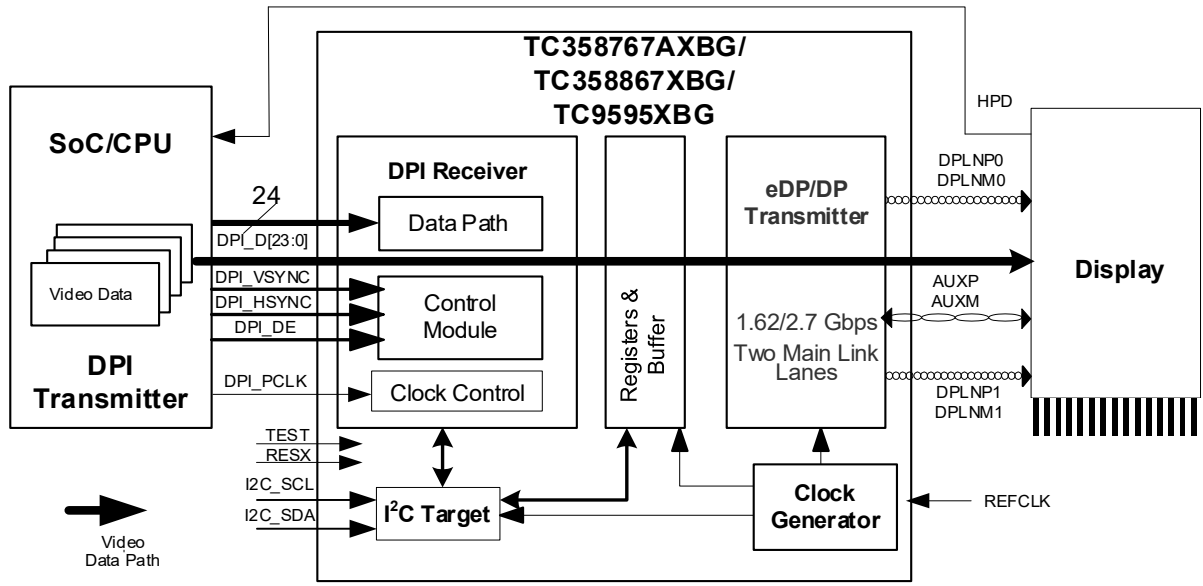

Figure 1.2 System Overview with TC358767AXBG/TC358867XBG/TC9595XBG in MODE_P21 Configuration
- Mode_P21: A system configuration where TC358767AXBG/TC358867XBG/TC9595XBG may typically be used is shown in Figure 1.2. This is similar to the Mode_S21 except that the video stream source is from DPI Host. In this configuration, the TC358767AXBG/TC358867XBG/TC9595XBG can support displays with resolution up to WUXGA (1920 × 1200) at 24 bit, 60 fps.